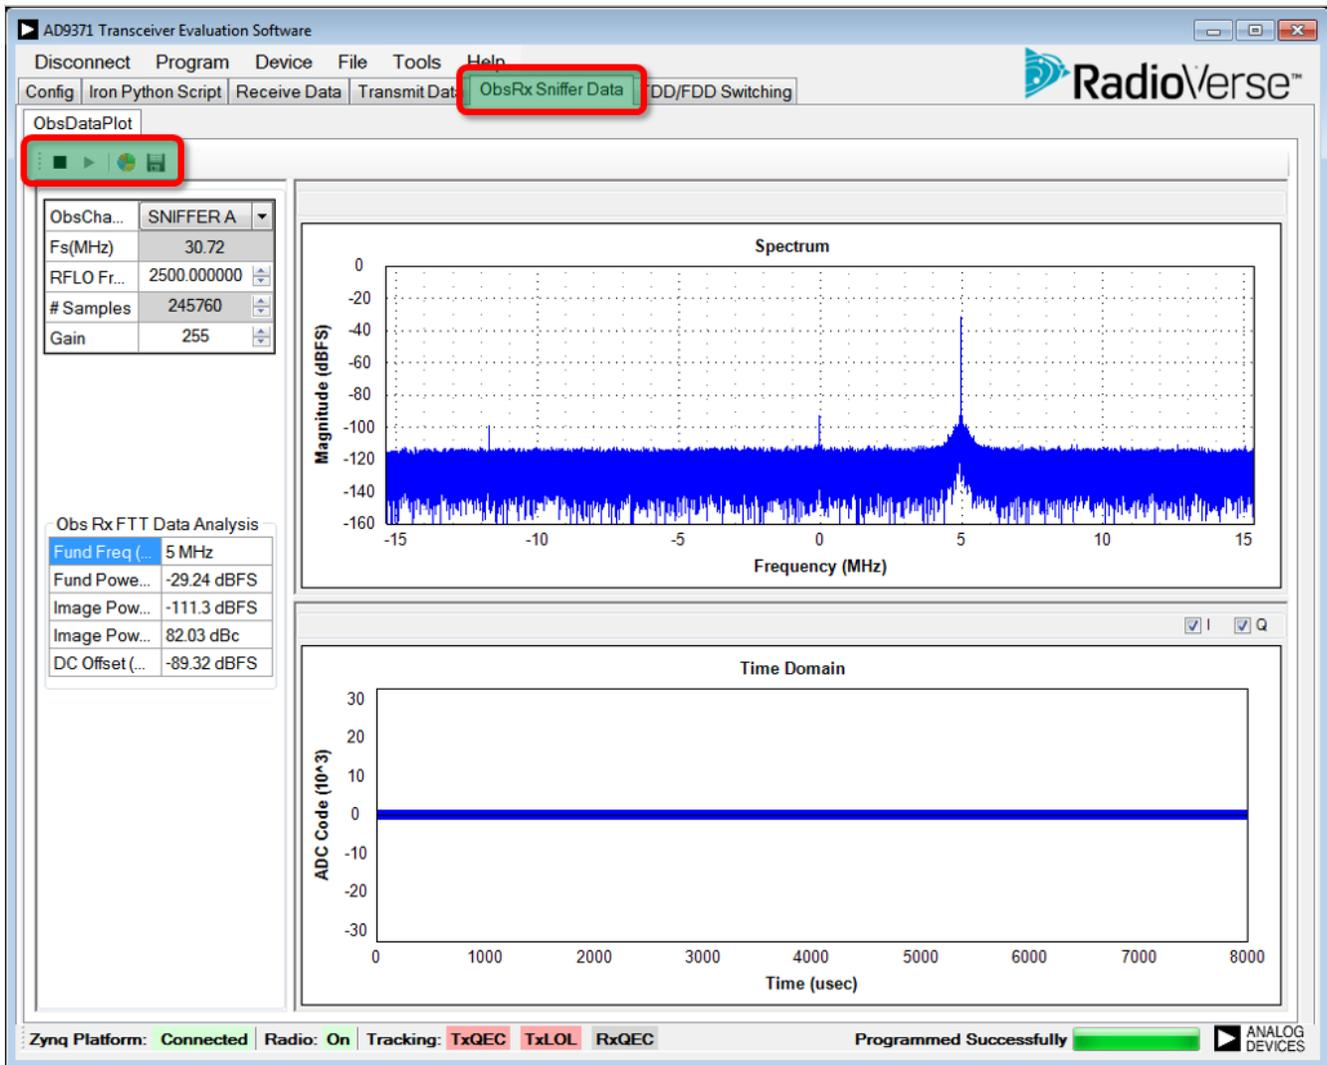

Figure 219. Observation Rx Receive Tab
- **ObsRx Sniffer Data:** opens the **ObsDataPlot** page (see Figure 219). When this tab is open, the user can enter the observation receive (ObsRx) radio frequency (RF) center frequency in megahertz, and set the ObsRx gain by entering the desired gain index. The gain index refers to the value in the programmable gain index table. See the Gain Control section for details on implementing the gain index table.
- **ObsChannel:** This dropdown menu (see Figure 219) offers the following input choices:
When clicking the play symbol in the **ObsRx Sniffer Data** tab, the device moves to the receive state and graphs the output data. An example of a captured waveform is shown in Figure 219.